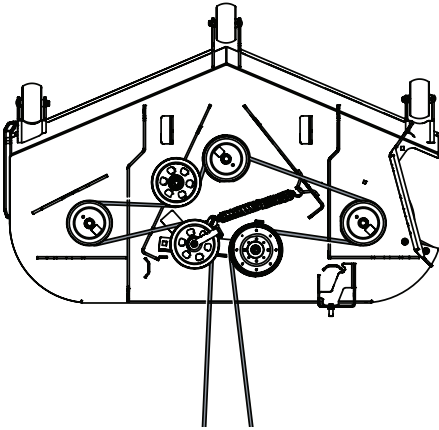

Figure 51
- Route the belt as shown in Figure 51. Tighten and secure the idler arm hardware.